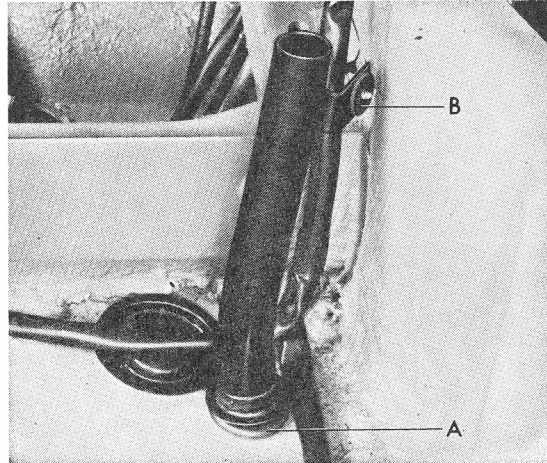

Figure 9
- 10 – When installing the combustion air intake pipe, ensure that the rubber washer (B) and the sealing washer (A) are used (see Figure 9).